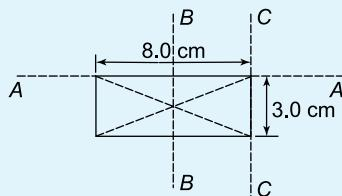

Figure 8.19
1. Determine the second moment of area and radius of gyration for the rectangle shown in Figure 8.19 about (a) axis AA (b) axis BB, and (c) axis CC.